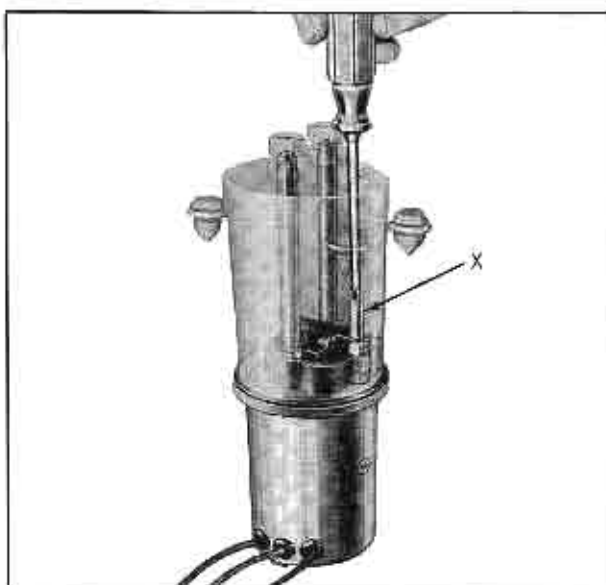

Fig. 3-97 Adjusting Pressure Relief Valve
3. Push control knob "in" and hold a few seconds. The pressure should be between 240 and 280 psi. The pressure may be adjusted as follows: Remove filler plug and place screw driver in position on the adjusting screw, Fig. 3-97.
justing screw "X" shown in Fig. 3-97, clockwise to increase pressure and counterclockwise to decrease pressure.